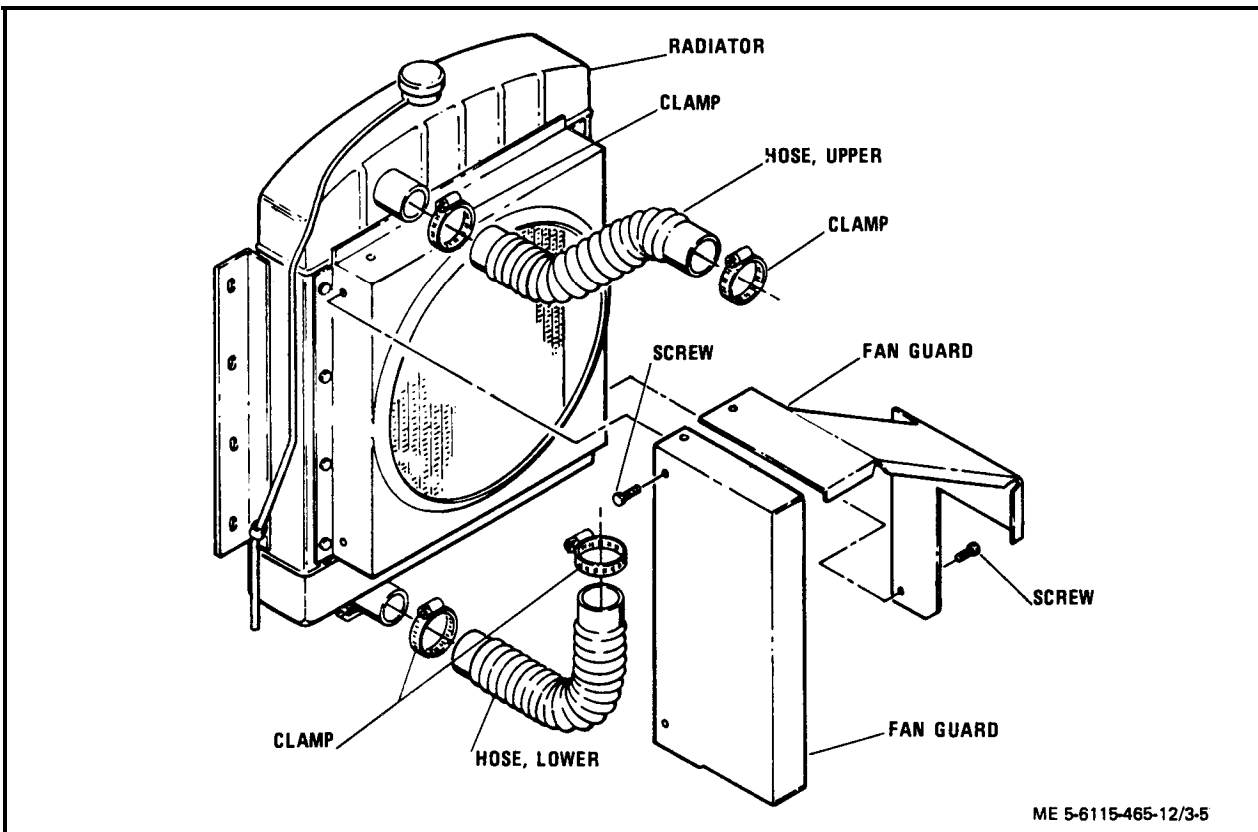

Figure 3-5. Radiator Hose Replacement
(3) To replace radiator hoses, proceed as follows:
- (a) Remove screws and fan guard (figure 3-5).
- (b) Refer to step (2) (b) above and drain the radiator.
- (c) Loosen clamps and remove defective radiator hose (figure 3-5).